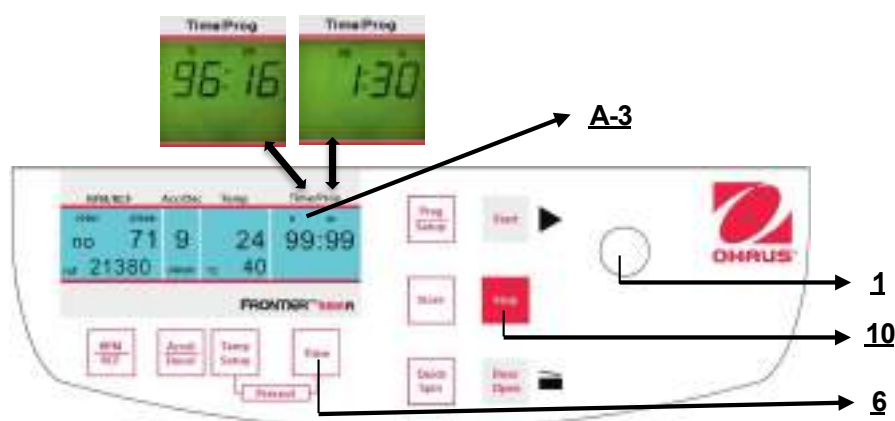

Figure. 17
3. The continuous run **"cont"**, which can be interrupted by the key **"Stop"** (10) (refer to figure 17).
The display always shows the remaining running time. (See figure 17)